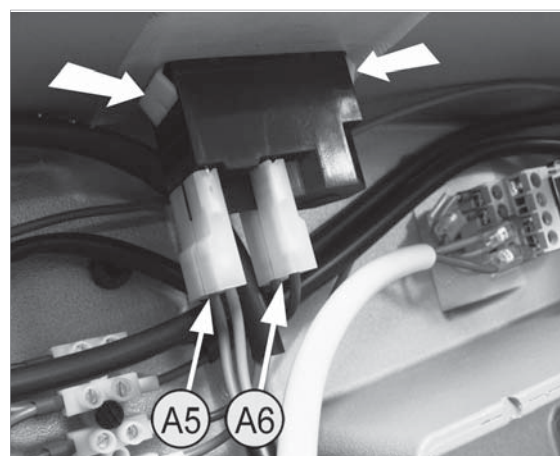

Fig.64
- 2) Disconnect the 4 connectors (A5) (A6) from the switch, observing their position carefully (Fig.64).